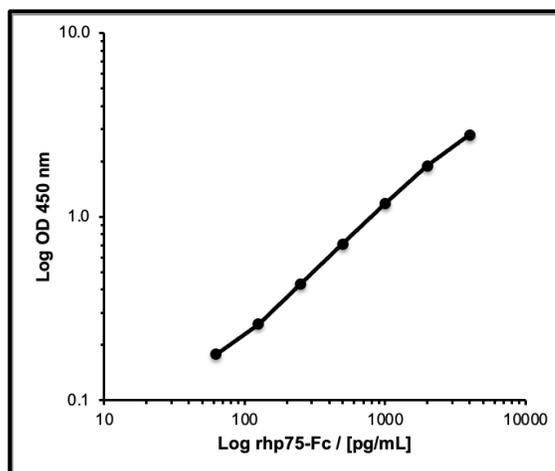

Figure 2: Human p75^{ECD} standard curve
2. **Determine concentration of target protein in unknown sample.** The p75^{ECD} protein concentration of the samples can be interpolated from the standard curve. Draw a horizontal line to intersect with the standard curve. A vertical line dropped from this point intersects the X-axis at the concentration of p75^{ECD} in the unknown sample. In the exemplary standard curve in Figure 2, a sample with OD₄₅₀ = 0.50 reads
In the example graph in Figure 2, recombinant human p75^{ECD} standards were run in triplicates using the assay diluent provided in this kit. The TMB reaction was stopped after 15 minutes.